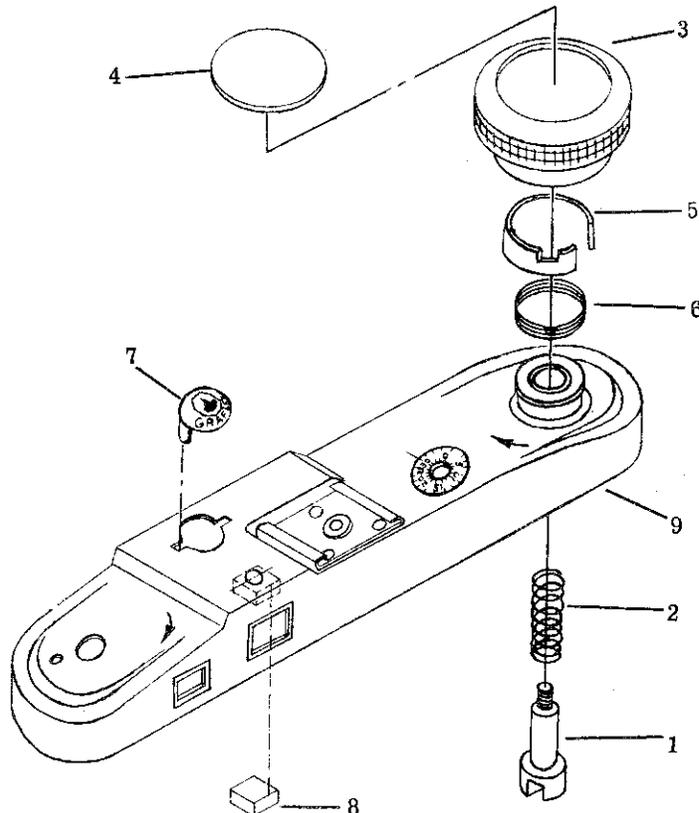

Figure 8. Top Cover, Exploded View
5.6. Top Cover Disassembly (Figure 8).
a. Hold the take-up shaft (1) securely with a flat object in the slot of the shaft. Turn the knurled take-up knob (3) counterclockwise to remove. Remove the shaft (1) and spring (2).
b. Remove the knob spring sleeve (5) by separating the ends and raising the sleeve from the bushing. The spring (6) is removed by pulling the looped end of the spring out and spiraling the spring from the bushing.
c. Do not remove the medallion (7) unless for replacement. The medallion is secured to the cover (9) by the two lugs bent against the inside of the cover.
d. On later models, a neoprene pad (8) is cemented inside, above the viewfinder eyepiece window to support the cover, remove if necessary.